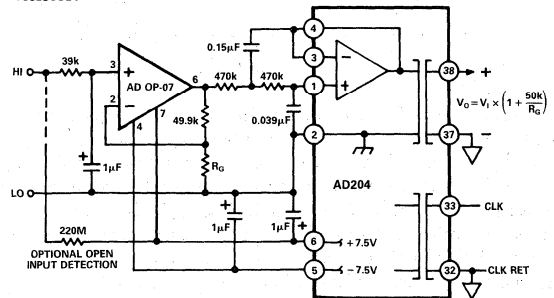

Figure 17. Input Amplifier & Filter for Sensor Signals
**Low-Level Sensor Inputs.** In applications where the output of low-level sensors such as thermocouples must be isolated, a low-drift input amplifier can be used with an AD204, as shown in Figure 17. A three-pole active filter is included in the design to get normal-mode rejection of frequencies above a few Hz and to